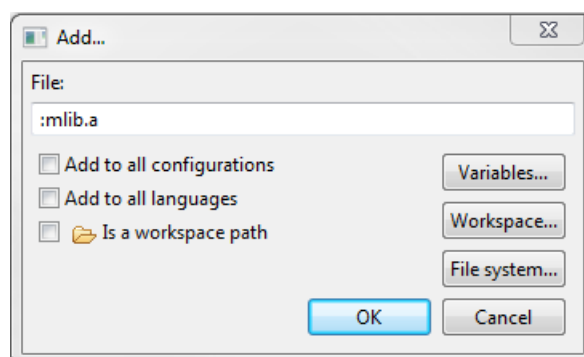

Figure 1-13. Library file inclusion
17. Type the following into the File text box (see Figure 1-13): :mlib.a